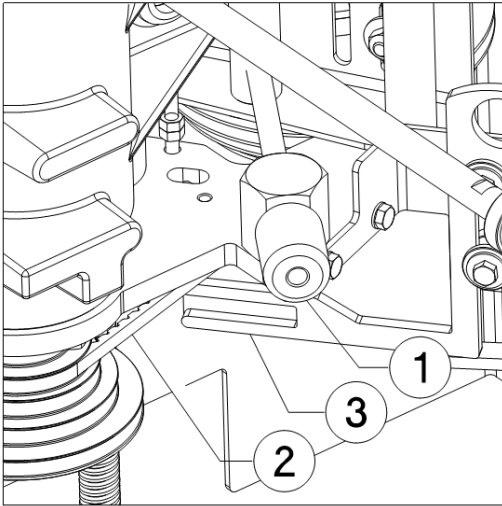

Fig 29
- A limit switch on the fork (fig 29) that surveys that the maximum speed of 3000 RPM is chosen when tenoning.